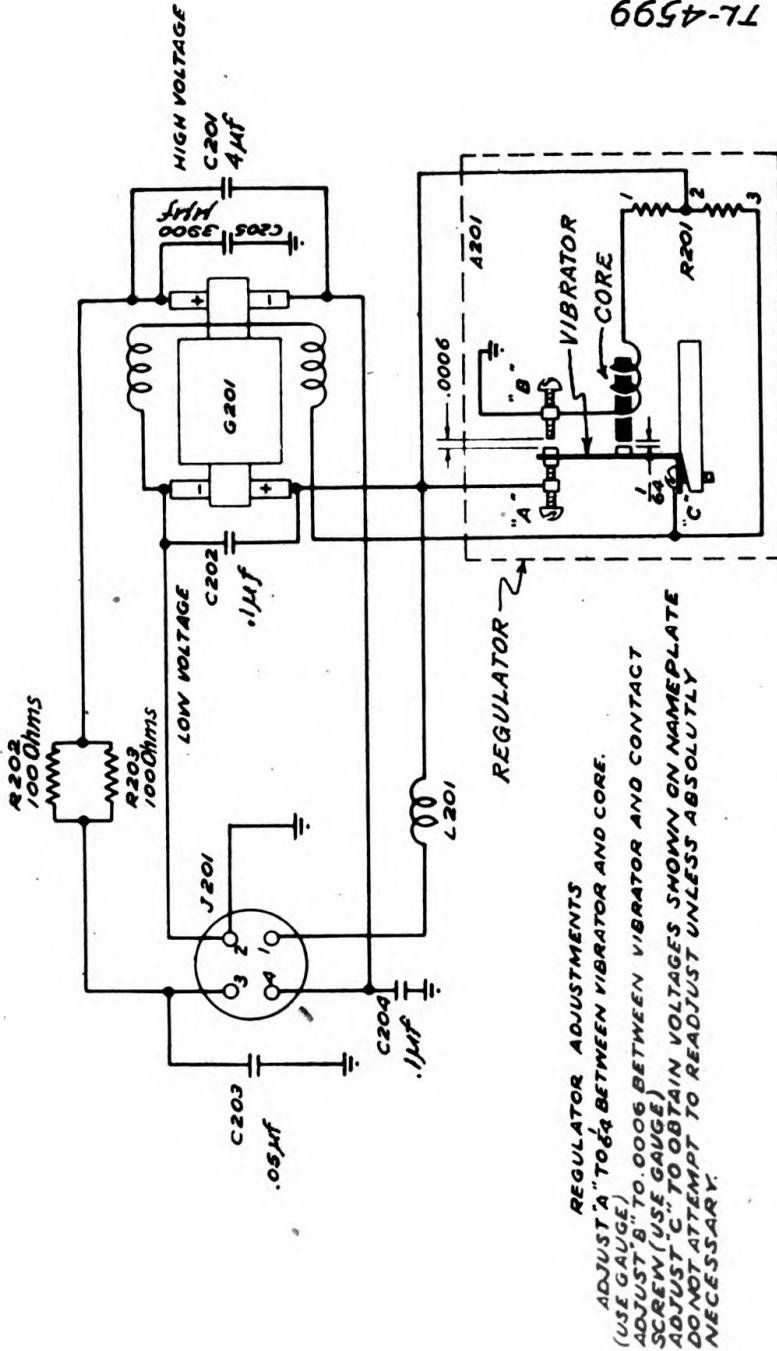

FIGURE 21.—Generator GN-44-A—schematic diagram.
14. Generator GN-44-A.—*a. Function.*—The hand-driven generator is designed to supply the required output of d-c power for the transmitter and the receiver. Its circuits are shown in figures 21 and 34.
c. *Field* (see figs. 21, 28, 29, and 30).—The two field windings 31 and 32 are in series and are connected across the low-voltage brushes. When the armature is rotated, a small residual flux in the pole pieces causes a voltage to be built up across the brushes. This voltage supplies current for the field winding which in turn adds to the flux in the pole pieces. *It is essential that the generator crank be turned in the*
e. *Filter circuits* (see fig. 21).—A filter system is provided within the generator in both the high- and low-voltage output circuits. This filter provides filtering in such a manner that the output voltage may be applied directly to the transmitter. However, if the receiver is to be operated from the generator, filter FL-10 must be used to supply further filtering. The generator filter in the low-voltage circuit consists of capacitor C202 directly across the low-voltage brushes and coil L201 in series with the A+ lead. In the high-voltage circuit the filter consists of capacitors C203 and C204 from the B+ and B- terminals, respectively, to ground; capacitor C205 from the positive brush to ground, parallel resistors R202 and R203 in series with the B+ lead, and capacitor C201 across the high-voltage brushes.